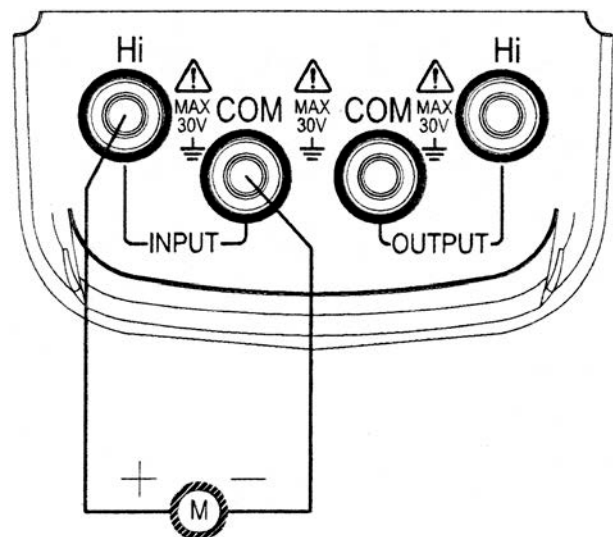

Figure 6-1
- ⚡ 1. Insert one end of the test lead into the INPUT terminal of the instrument and connect the other end to the input terminal of the device under test. See Figure 6-1.
- 1. Insert one end of the test lead into the INPUT terminal of the instrument and connect the other end to the input terminal of the device under test. See Figure 6-1.